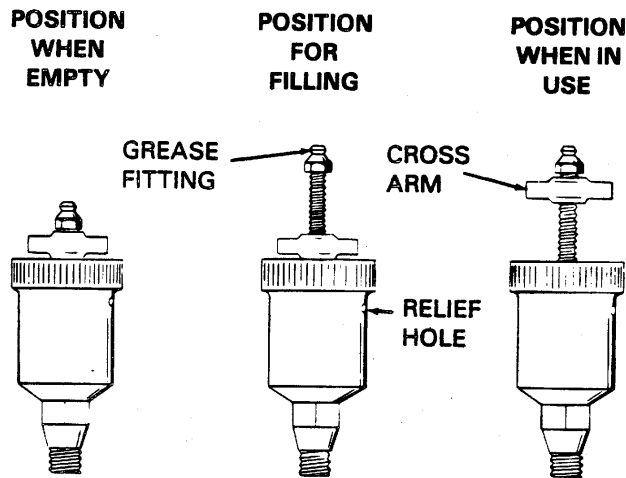

Figure 4. Automatic Lubricating Grease Cup
Before attempting to remove the impeller (2), turn the cross arm on the automatic lubricating grease cup (9) clockwise until it rests against the cover (see Figure 4). This will prevent the grease in the cup from escaping when the impeller is removed.
Fill the grease cup (9) through the grease fitting with No. 2 lithium base grease until grease escapes from the relief hole. Turn the grease cup arm counterclockwise until it is at the top of the stem; this will release the spring to apply grease to the seal (see Figure 4).